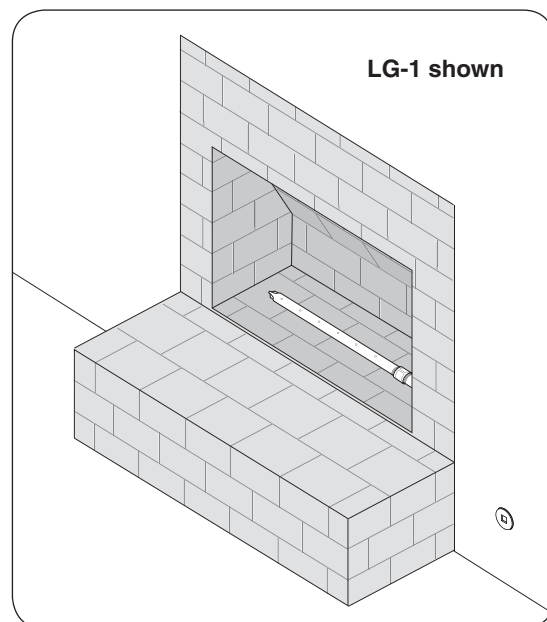

Fig. 3-3 Install log lighter in fireplace
5. Place the log lighter in the fireplace so that it is centered, and the ports are facing upward (see Fig. 3-3).
6. The log lighter must be secured in a rigid manner. Run $\frac{1}{2}$ " pipe from the gas stub to the lighter. Use a pipe compound resistant to all gasses on all NPT connections. Tighten securely. See Fig. 3-3.